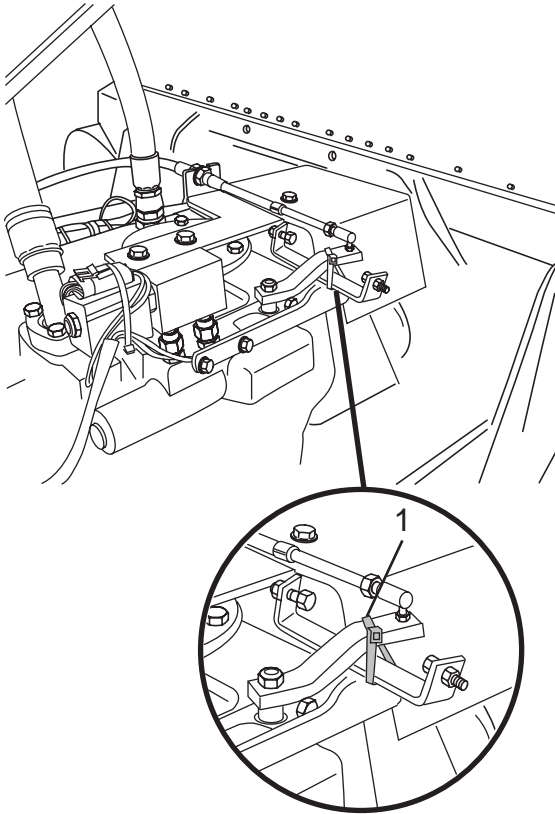

Figure 12
1. Remove the cable tie (Figure 12, Item 1) securing the hydraulic pump linkage in the TRANSPORT mode. The TRANSPORT mode constantly rotates the drum in the CHARGE direction at a speed of 1 to 1-1/2 rpm. This prevents the drum rollers from becoming damaged during transport.